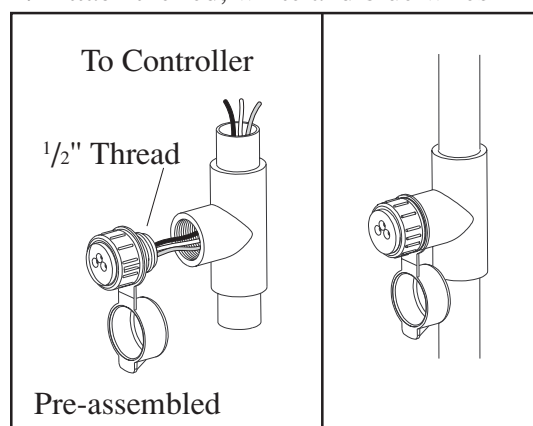

Fig. 1
2. Feed the red, white and blue wires of the harness through the base of the "Tee" and into the controller wiring compartment as shown in Figure 1.
3. Screw the harness housing into the "Tee" (or other fitting) as shown in Figure 1.